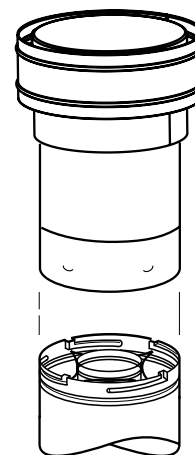

Figure 29
K. Install the vertical termination - The final step involves installation of the SV4.5CGV-1 Vertical Termination. Extend the vent sections to the height as shown in the "Vertical vent termination section" on **page 5**. The SV4.5CGV-1 Vertical Termination (**Figure 29**) installs in the exact same fashion as any other **Secure Vent** section. Align the termination over the end of the previously installed section, adjusting the radial alignment until the four locking dimples of the termination are aligned with the inlets of the four incline channels of the last vent section. Push the termination down until it fully engages, then twist the termination clockwise running the dimples down and along the incline channels until they seat at the end of the channels.